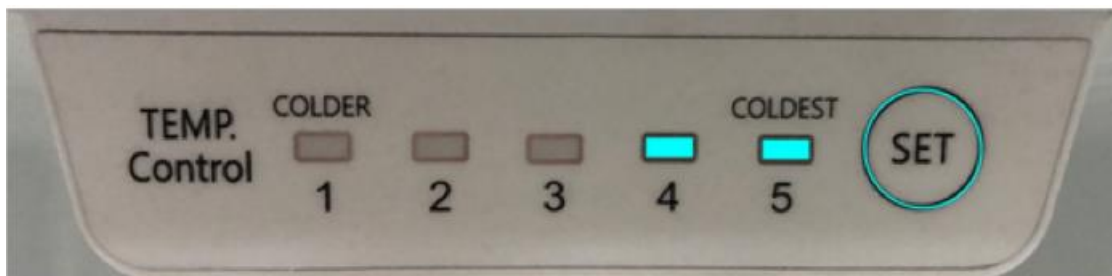

Figure 2-5
4. Ring temperature sensor failure: LED4 and LED5, as shown in Figure 2-5;